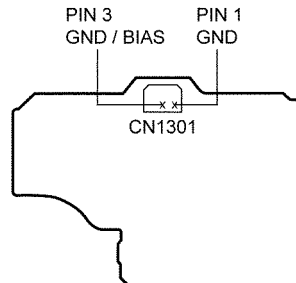
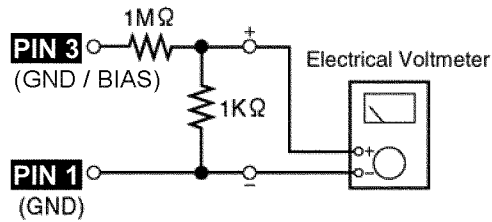

Fig. 2
Fig. 5
1. Connect an electrical voltmeter. (Fig. 5) (Fig. 2 for location of Test point)